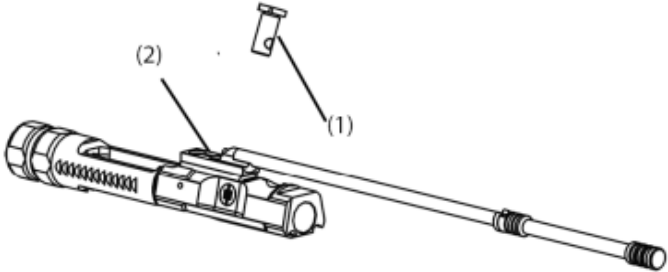

Figure 2.10
2. Bolt cam pin (Fig. 2.10, 1) missing	Replace bolt cam pin
3. Loose or damaged bolt carrier key (2)	Tighten and re-stake carrier key or replace as necessary